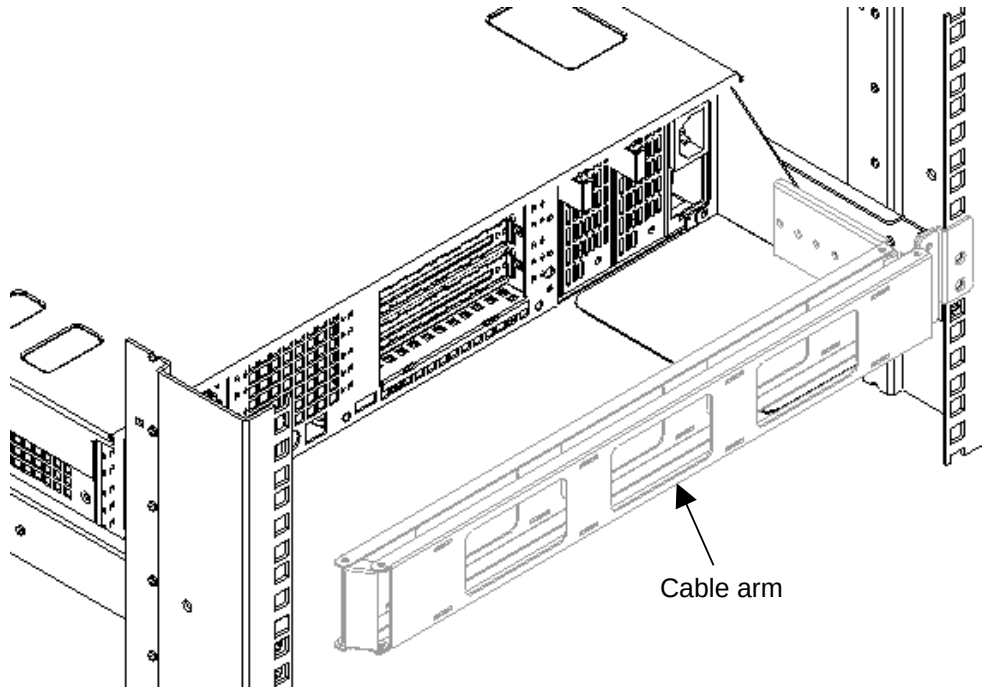

Figure 2-18. Checking the Installed Cable Arm
6. Press in on the rail release latches and slowly push the server in and out of the system rack several times. Ensure proper movement of the cable arm. Adjustment of the cable arm hinged brackets may be necessary to attain smooth operation. Tighten all screws. Ensure the server can be fully closed and secured to the rack. See Figure 2-18.